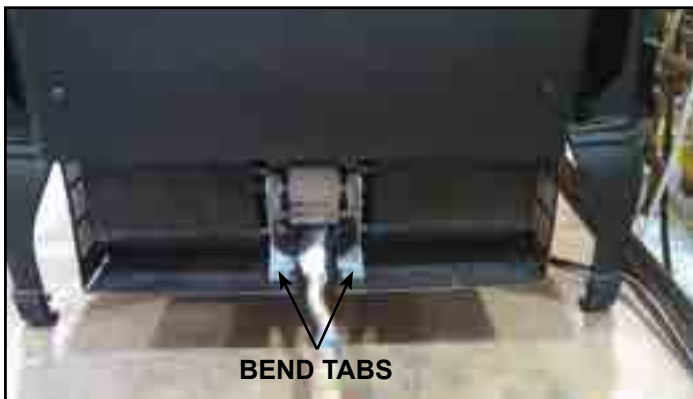

Figure 8.3 Fan Housing
1. From the rear of the appliance, slide the fan into the fan housing with the magnetic strips down, staggering the gas line. The fan cord should be toward the inside of the appliance. Bend tabs upward approximately 45 degrees. See Figure 8.3.